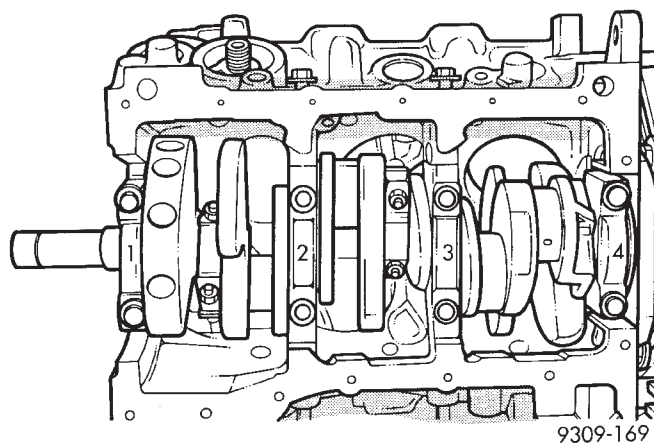

Fig. 1 Main Bearing Cap Identification
Bearing caps are not interchangeable and should be marked at removal to insure correct assembly. (Fig. 1) Upper and lower bearing halves are NOT in-
(2) Slowly rotate crankshaft counter-clockwise sliding the bearing into position. Remove Special Main Bearing Tool C-3059.
(3) Install each main cap and tighten bolts finger tight.
(4) Tighten number 1, 3 and 4 main cap bolts to 41 N•m + 1/4 Turn (30 ft. lbs.+ 1/4 Turn) (Fig. 1). Then tighten the #3 tie bolts to 54 N•m (40 ft. lbs.) (Fig. 4).
(5) Rotate the crankshaft until number 6 piston is at TDC.
(6) To ensure correct thrust bearing alignment the following procedure must be done: